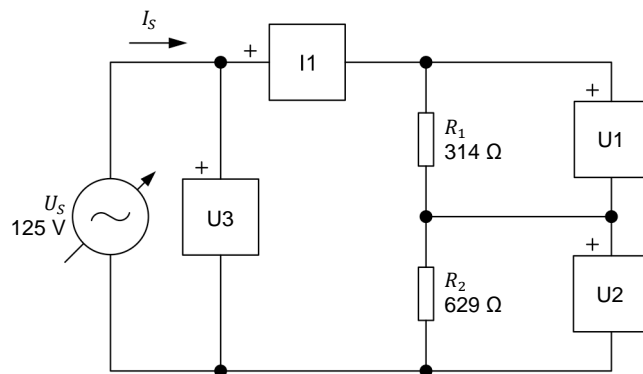

Figure 1-9. AC circuit containing two resistors connected in series.
27. Set up the circuit shown in Figure 1-9. To obtain the resistor arrangement of Figure 1-9, make the necessary connections and switch settings on the Resistive Load (refer to Appendix C if necessary). Use inputs I1, U1, U2, and U3 of the Data Acquisition and Control Interface to measure the source current I_S , voltage U_{R1} , voltage U_{R2} , and source voltage U_S , respectively.